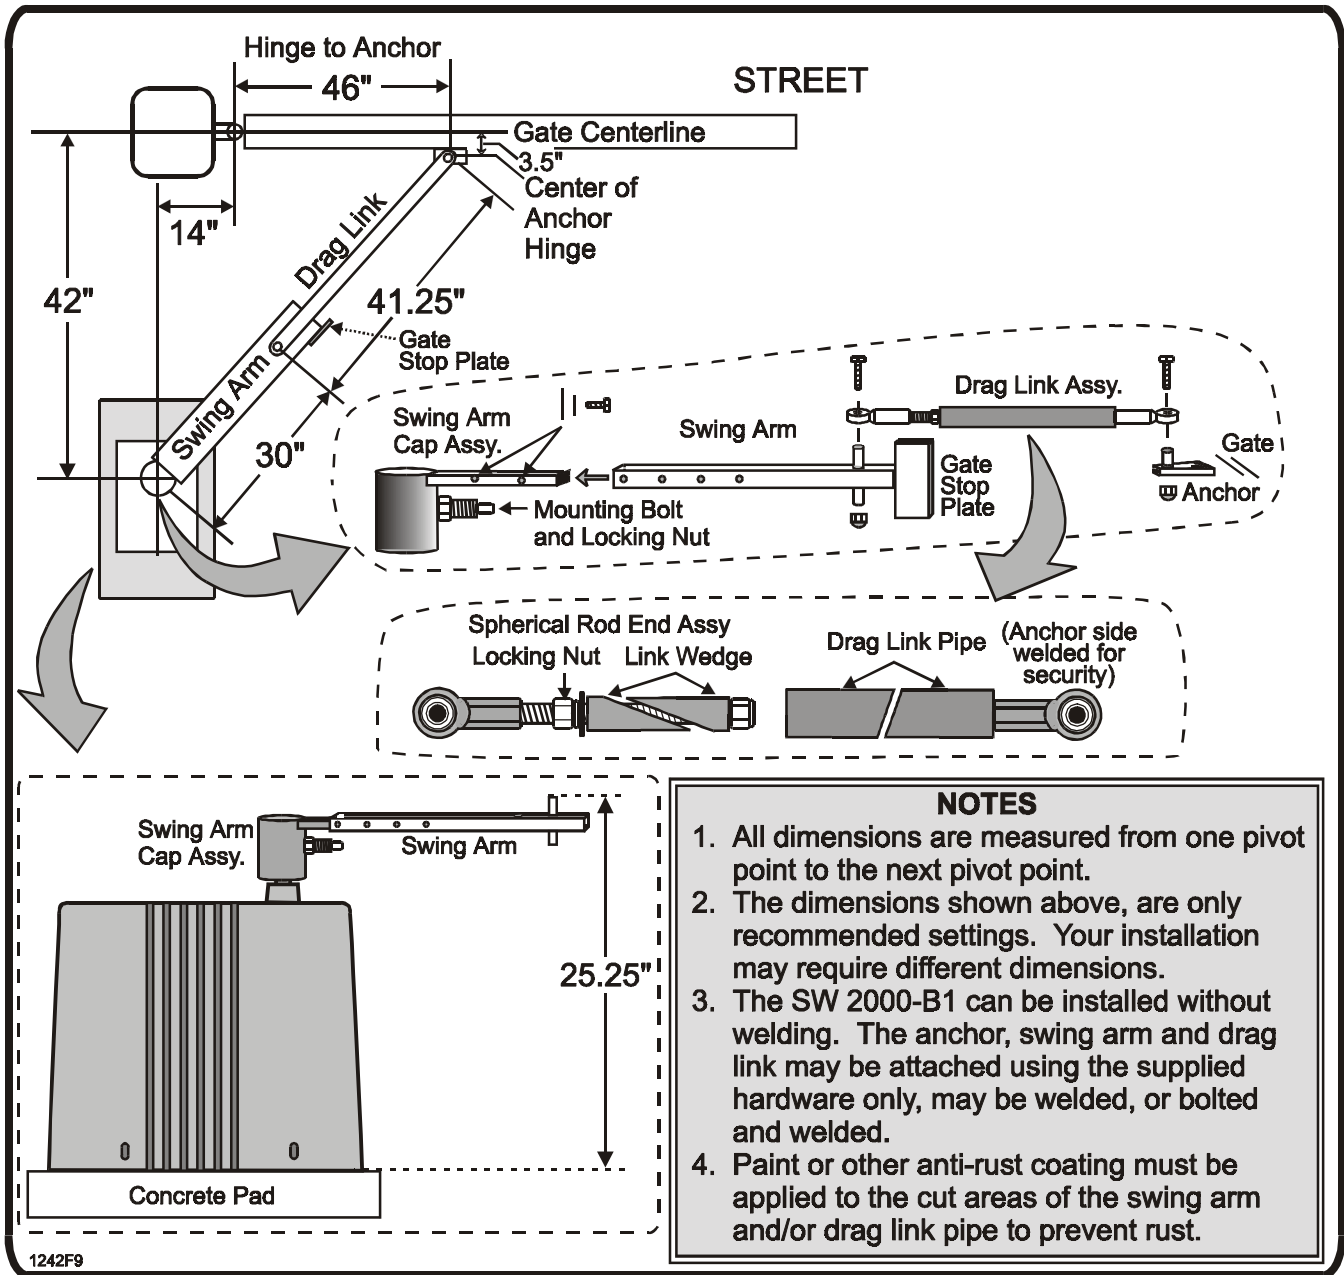

Figure 6. Gate Arm Installation.
2. Using manual controls, move the swing arm cap assembly until it points roughly to the anchor as shown in Figure 6.